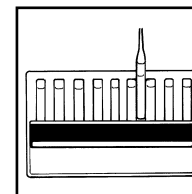

Figure 4
7. Hold the comparator in a nearly horizontal position while standing directly beneath a source of light. Place the ampoule between the color standards moving it from left to right along the comparator until the best color match is found. If the color of the ampoule is between color standards, an estimate can be made (fig 4).